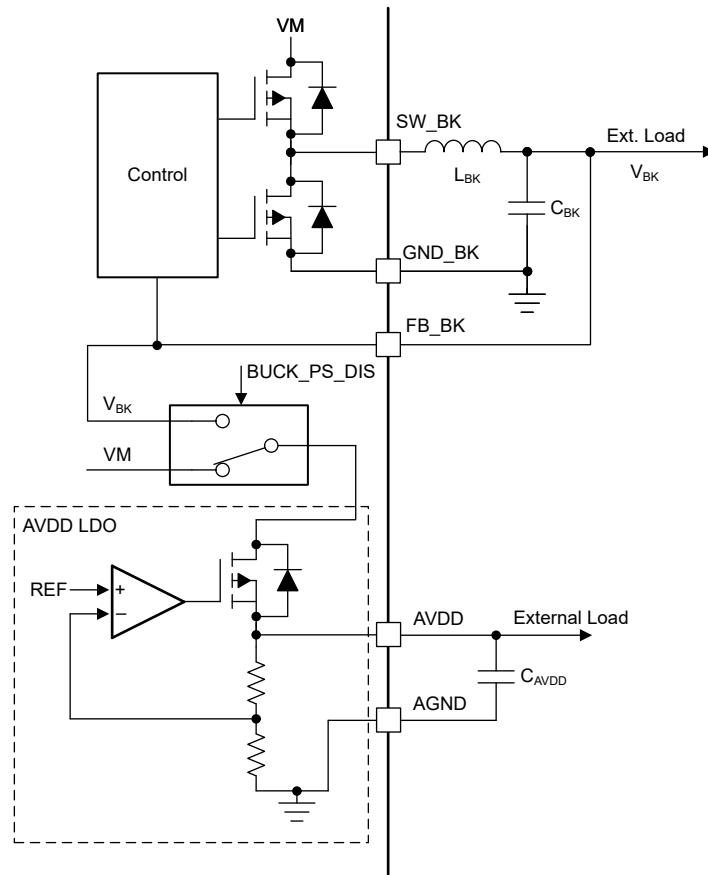

**Figure 6-7. AVDD Power Sequencing from Mixed Mode Buck Regulator**
The AVDD LDO has an option of using the power supply from mixed mode buck regulator to reduce the device power dissipation. The power sequencing mode allows on-the-fly changeover of AVDD LDO input from DC mains (VM) to buck output ( $V_{BK}$ ) as shown in Figure 6-7. This sequencing can be configured through the BUCK\_PS\_DIS bit. Power sequencing is supported only when buck output voltage is set to 5V or 5.7V.